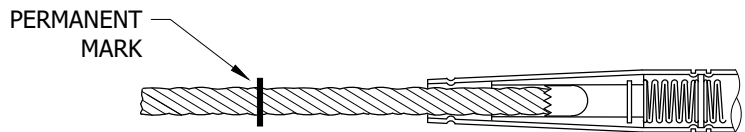

FIGURE 4
- H. THE FIGURES ABOVE ILLUSTRATE THE BASIC OPERATING PRINCIPLES OF THE AUTOMATIC SLEEVES. AS THE PREPARED CONDUCTOR IS INSERTED INTO THE SLEEVE (FIGURE 3), THE JAWS ARE FORCED TOWARD THE WIDER PORTION OF THE TAPERED SPLICE BODY, PERMITTING THE JAWS TO SEPARATE AND ACCEPT THE CONDUCTOR (FIGURE 4). THE INTERNAL SPRING KEEPS THE JAWS FROM OPENING ANY MORE THAN NECESSARY. WHEN THE CONDUCTOR HAS BEEN COMPLETELY INSERTED, TENSION IS APPLIED, FORCING THE JAWS IN THE DIRECTION OF THE NARROWING TAPER, WHICH IN TURN INCREASES THE COMPRESSIVE FORCES OF THE JAWS UPON THE CONDUCTOR. AS THE LINE TENSION INCREASES, SO DOES THE GRIPPING FORCE OF THE JAWS. THESE SLEEVES ARE NOT TO BE USED IN THE TIER 2 & TIER 3 AREAS.